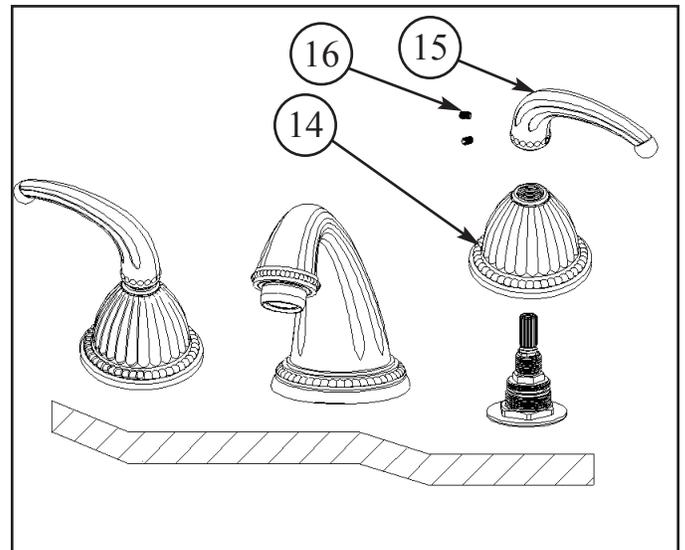

Figure 4
4. Attach ESCUTCHEON (14) and HANDLE (15). Secure handles into place with SETSCREW (16). Any adjustments for rotational alignment must be made to the valve BODY (7) - not to the cartridge. (Note: Allow minimum spacing between HANDLE (15) and ESCUTCHEON (14) to prevent damage to the surface finish.) See Figure 4.